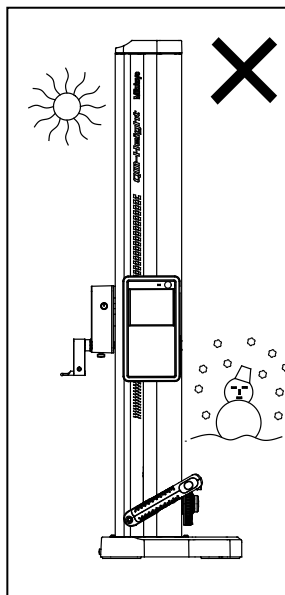

Fig. 2
- Do not use this gage in locations where it will be exposed to direct sunlight or a draft of hot air. (Fig.2)